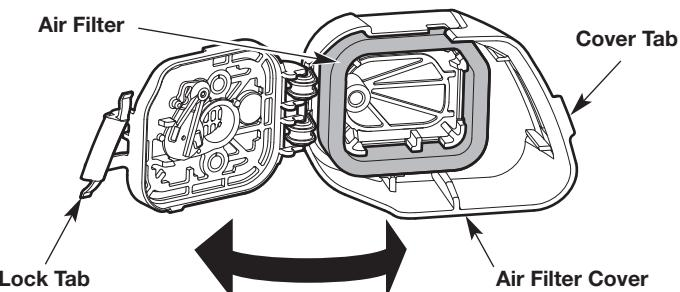

Fig. 23
1. Open the air filter cover: Hook your fingers behind the cover tab. To unlock the air filter cover, pull it to the left and away from the engine. This may require a firm pull. Swing the air filter cover to the right (Fig. 23).
2. Remove the air filter from inside the air filter cover (Fig. 23).
6. Reinstall the air filter inside the air filter cover (Fig. 23).
7. Close the air filter cover: swing the air filter cover to the left and press it closed until the lock tab snaps into place (Fig. 23).